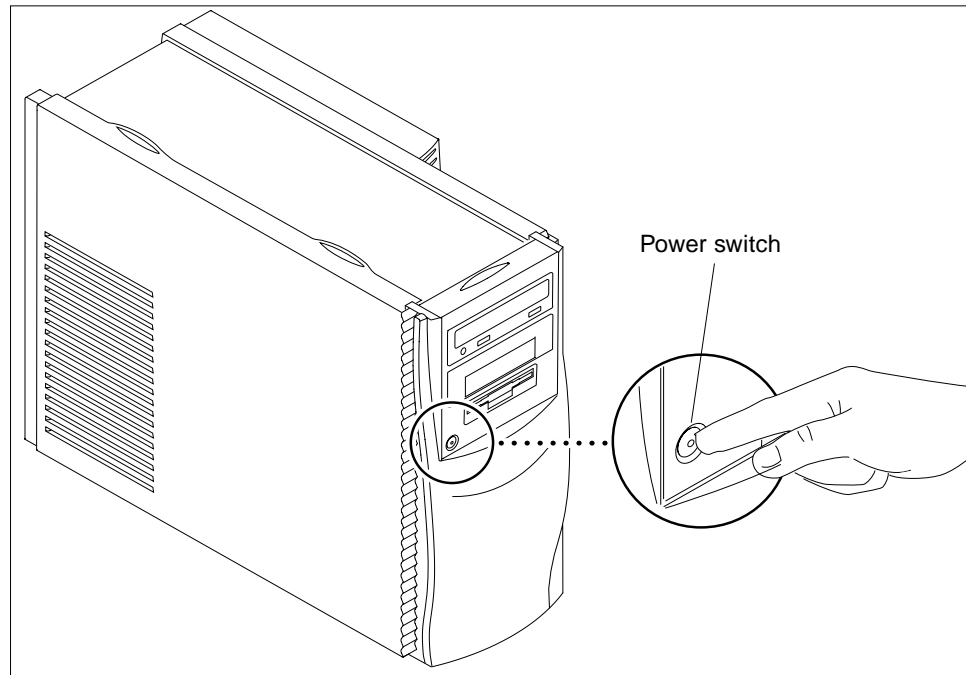

FIGURE 6-1 System Power
3. **Momentarily press the front panel power switch (FIGURE 6-1); and follow the instructions on the screen.**
9. Momentarily press the power switch (FIGURE 6-1 on page 6-2) or the Type-6 keyboard power key (FIGURE 6-5).